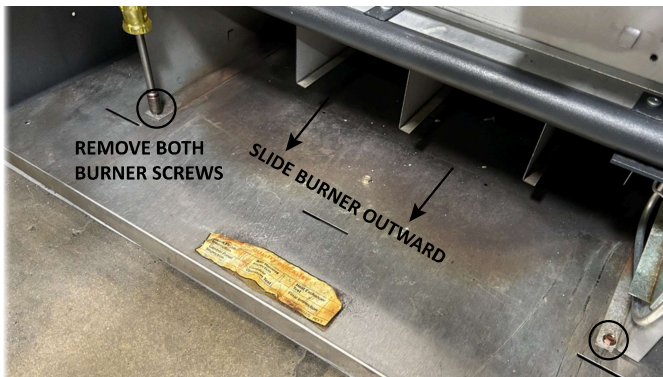

Figure 1. Remove Burner Tray from Heater
6. Using a nut driver, remove the two (2) 5/16" hex screws that hold the burner tray in place (See **Figure 1**).
8. Slide the burner tray outward to disconnect from the heater (See **Figure 1**).